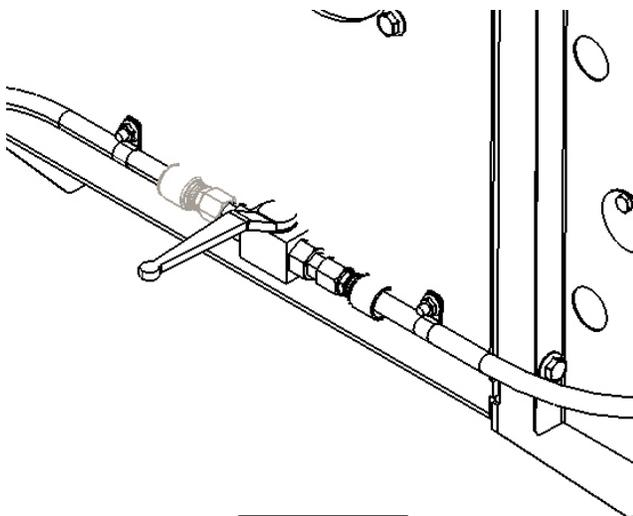

Fig. 29.1
Locate the hydraulic kit and the quarter turn shut off valve. Attach the hoses and shut off valve to the left side of the infeed housing using (2) 1/2" hose "P" clamps & (2) 1/4" x 3/4" flange bolts & nuts as shown in figure 29.1. Run hose up left hand side auger tube attaching it the weld on studs using 1/2" hose "P" clamps & 1/4" flange nuts. Leave a little slack between each stud. Run the hose on the inside of the carriage mount bracket & connect to the cylinder using the elbow provided. (See Fig. 29.2)